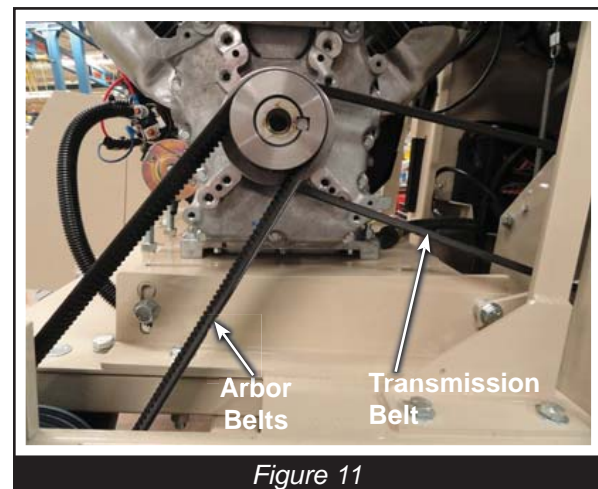

Figure 11
- Remove transmission belt from the engine sheave, (SS26-38K, SS36-57D and SS26-31D only, Figures 11 & 13 respectively), on the SS36-57D remove the jackshaft belt, the transmission belt does not have to be removed.